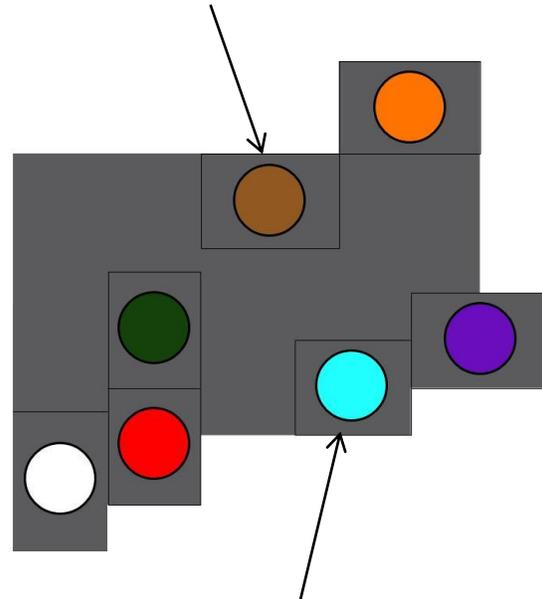

Figure 10 - End View (Harness Side)
15. For 1963 applications, see Figure 7. For 1964 to early 1965 applications, see Figure 8. For late 1965 to 1966 applications, see Figure 9 and for 1967 applications, see Figure 10 on the next page.